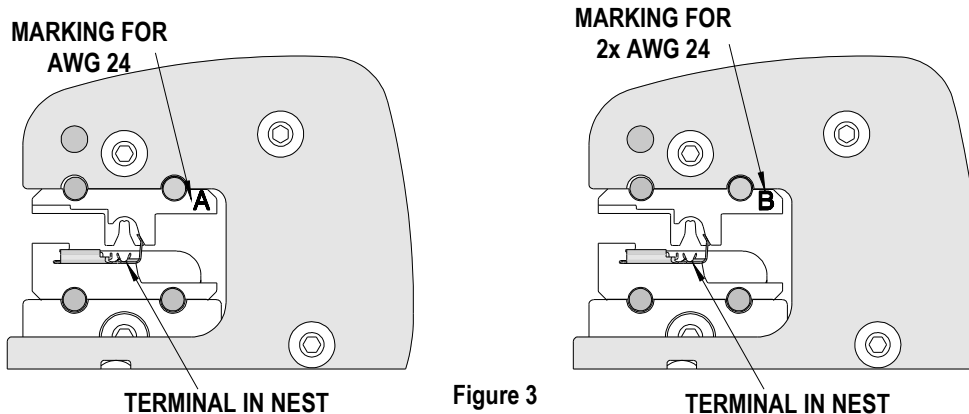

Figure 3
● See Page 3, Figure 3 to determine which Punch Set to use for each wire awg.
6. Make sure when choosing the nest opening, it will correspond with the A or B profile on the hand tool. See Figure 3.